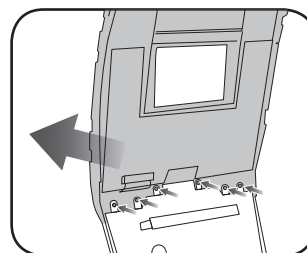

Fig. 2.7
7. Remove the six T6 Torx screws securing the upper bezel to the climate controls and remove the upper radio bezel. This will not be used. (Fig. 2.7)